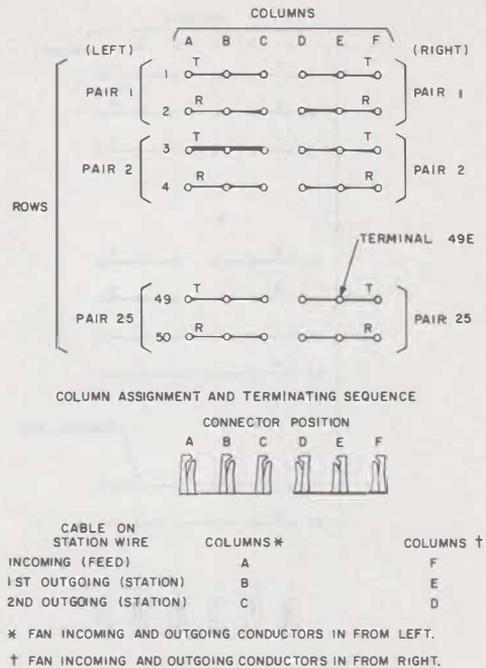
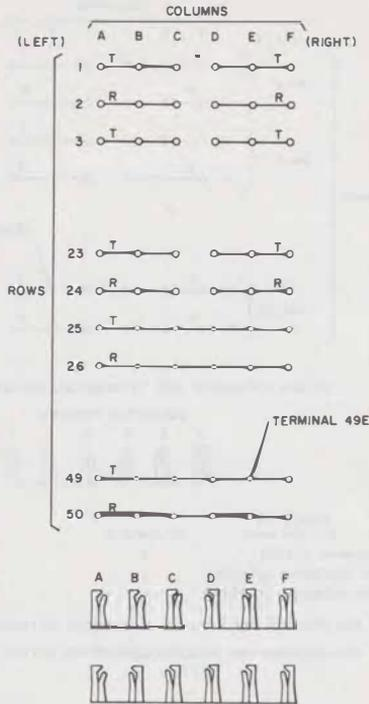

**Fig. 4—Numbering and Wiring Plan for 66A1-25 (MD), 66A2-25 (MD), 66A2-50 (MD), 66B1-25 (MD), 66B4-25, and 66B4-25C Connecting Blocks**
**Fig. 5—Numbering and Wiring Plan for 66B3-50 and 66B3-50C Connecting Blocks**
2.02 Numbering plans for various general purpose connecting blocks are shown in Fig. 4 through 9.
Refer to Fig. 4 through 9 for the particular block used.
- (1) Loop conductors through fanning strip and connector terminal in normal terminating sequence. Refer to Fig. 4 through 9 for the particular block used.
- (2) Dress conductors into space beside connecting block while taking up slack toward loose end of cable.
- (4) Pass conductors over distributing ring.
- (5) Place conductors through fanning strip and terminate in normal terminating sequence. Refer to Fig. 4 through 9 for the particular block used.
- (6) Repeat steps (2) through (5) for all other outgoing cables.
SEE FIG. 5 FOR WIRING PLAN FOR ROWS 1 THROUGH 24. FIG. 4 FOR ROWS 25 THROUGH 50.